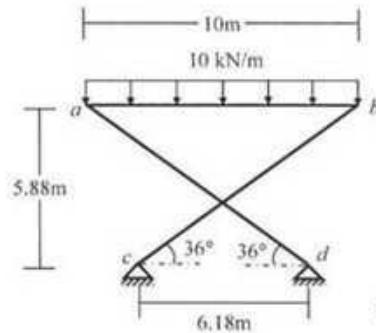

Fig. 7
7. Use the Flexibility Method (considering flexural and axial deformations only) to draw the Bending Moment Diagram of the frame  $abcd$  loaded as shown in Fig. 7